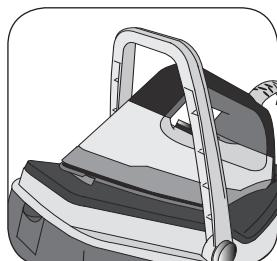
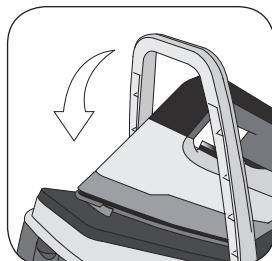
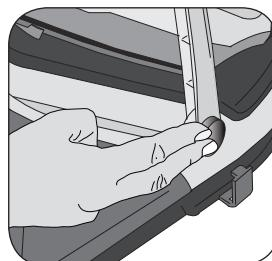

Fig. 2
Fig. 3
Fig. 4
Place the appliance on a horizontal and stable surface. Use the handle (F) for moving the appliance (Fig. 2). After transporting the appliance, put the handle in its housing (Fig. 3). To release and lift the handle press the button (B) (Fig. 4).